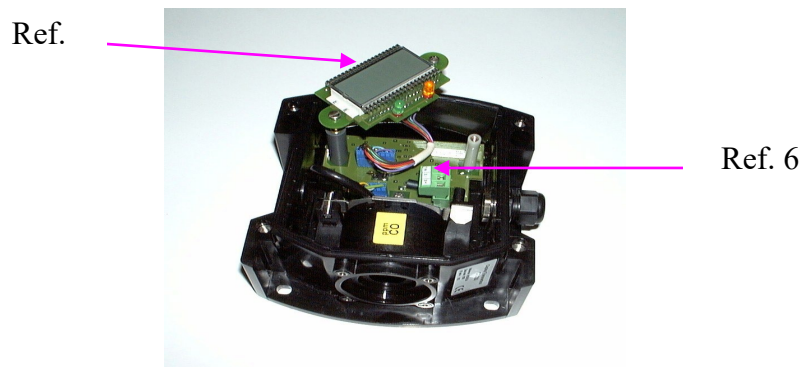

FIG. 3
- Turn the display circuit as shown above (Ref. 5 in Fig. 3)
- Connect the cable (see 2-3: Connections for the various types of sensors) to the connector (Ref. 6, Fig. 3)